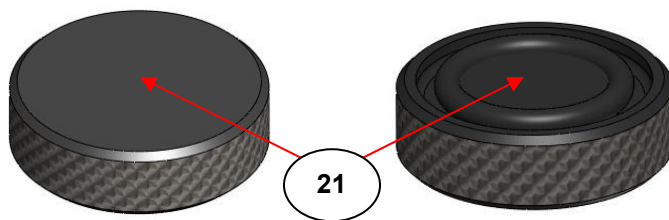

Fig 15. Volatiles Cover (top view left – underside view right)
3. Place the volatiles cover (**21**) into position over the sample and use the clamp arm assembly (**18**) with the self leveling flat anvil (**17**) if necessary. (See Figs 15. and 16. and how to use the volatiles cover from pages 33 and 34.)
Included with the Quest ATR Accessory is a volatiles cover (**21**) (P/N GS10825) that can be used when sampling volatile liquid samples for their prolonged containment and surface contact with the ATR crystal material from the crystal puck option fitted to the Quest ATR optical unit. The volatiles cover is a flat circular plate with an O-ring on the underside for sealing into position when a force is applied from the flat anvil (**17**) fitted to the clamp arm assembly (**18**). (See Figs 15. and 16.)